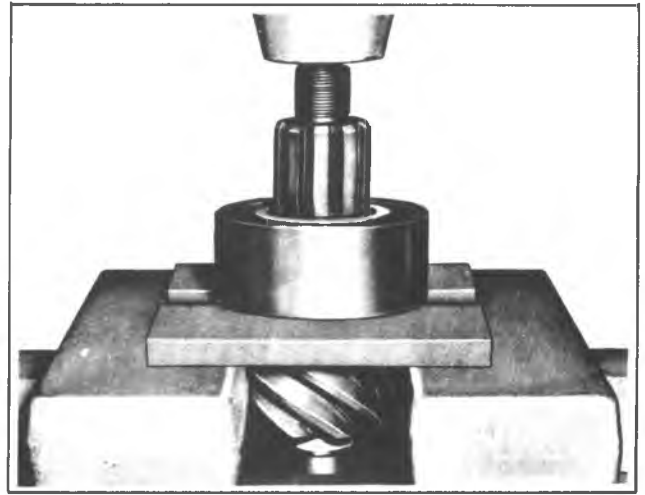

Fig. 3G-Drive Pinion Front Bearing Removal
6. Position drive pinion in an arbor press so that the bearing is supported by two pieces of flat steel stock as shown in figure 3G. Place flat stock parallel to each other and against pinion so as to pick up a large area of bearing outer race. Press pinion from bearing making sure pinion is supported to prevent damage when removed from bearing.